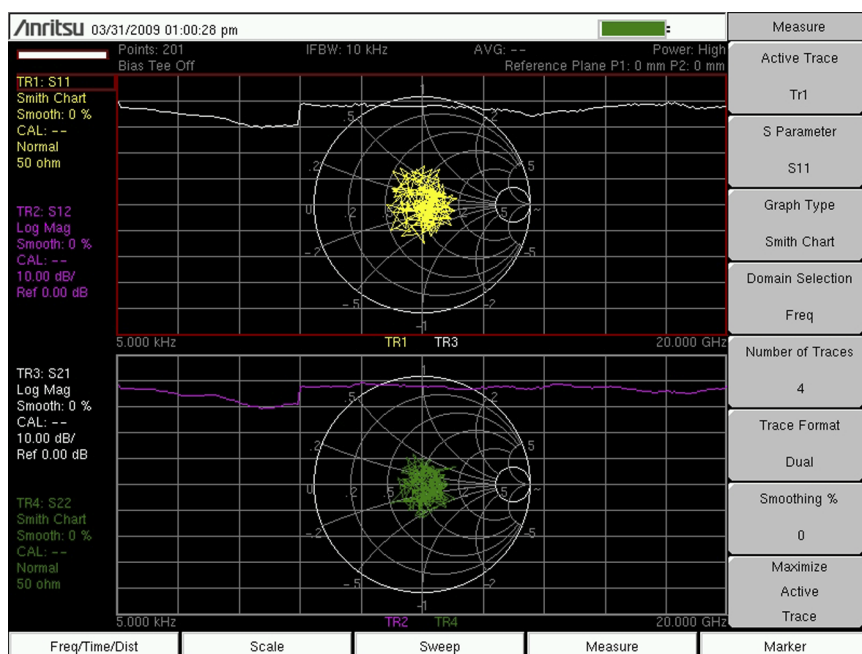

Figure 2-3. Format = Dual, Traces = 4 (MS202xC trace shown)
3. Next, set Trace Format = Dual. Note how the 4 traces are assigned to the split display. TR1 (Trace 1) and TR3 are assigned to the top graph. TR2 and TR4 are assigned to the bottom graph. Refer to Figure 2-3 on page 2-5.